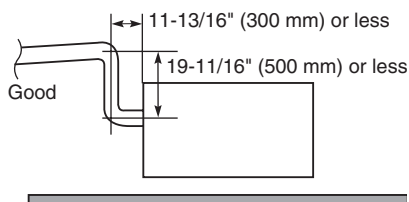

Fig. 3-11
- **If it is necessary to increase the height of the drain pipe, the section directly after the connection port can be raised a maximum of 1.64 ft. (500 mm). Do not raise it any higher than 1.64 ft. (500 mm), as this could result in water leaks. (Fig. 3-11)**